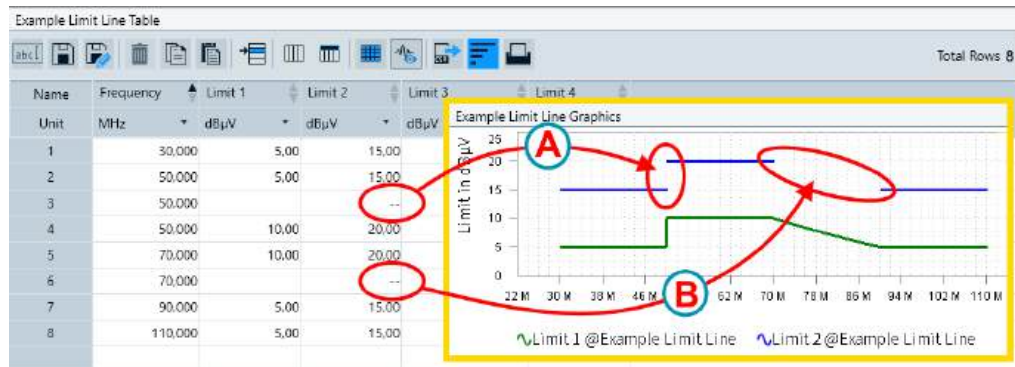

Figure 4-186: Examples of entries in a limit line table, and resulting graphics
- For a "vertical gap" (labeled (A) in Figure 4-186), use the same frequency as in the 1st row
- For a "horizontal gap" (labeled (B) in Figure 4-186), use any frequency between the 1st row and the 3rd row